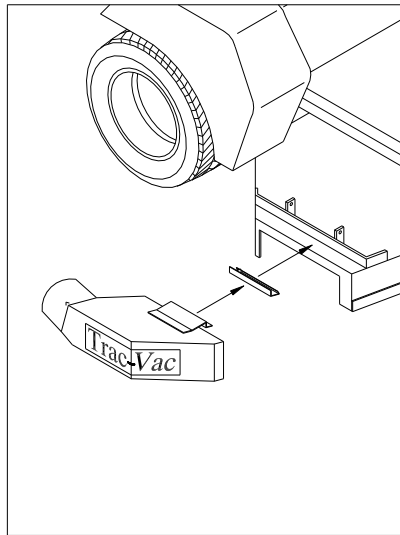

Fig. 14
12. Attach chute to mower deck, the chutes are also deck specific so your chute may look and attach differently than what is pictured. Usually the chutes require mounting an adapter to the deck to accept the bracket on the chute or for the chute to pin into it. Most of the time the adapters pick up existing holes on the deck but occasionally they do not. If they do not, clip or pin the chute into the adapter, hold the chute up to the deck and adjust to the best fit. Once best fit is achieved, mark and drill holes through the deck. If 1/4" hardware is to be used drill with 9/32" bit, if 5/16" hardware is to be used drill with 11/32" bit and if 3/8" hardware is to be used drill with 13/32" drillbit. After drilled, attach with hardware provided. **Fig. 14**